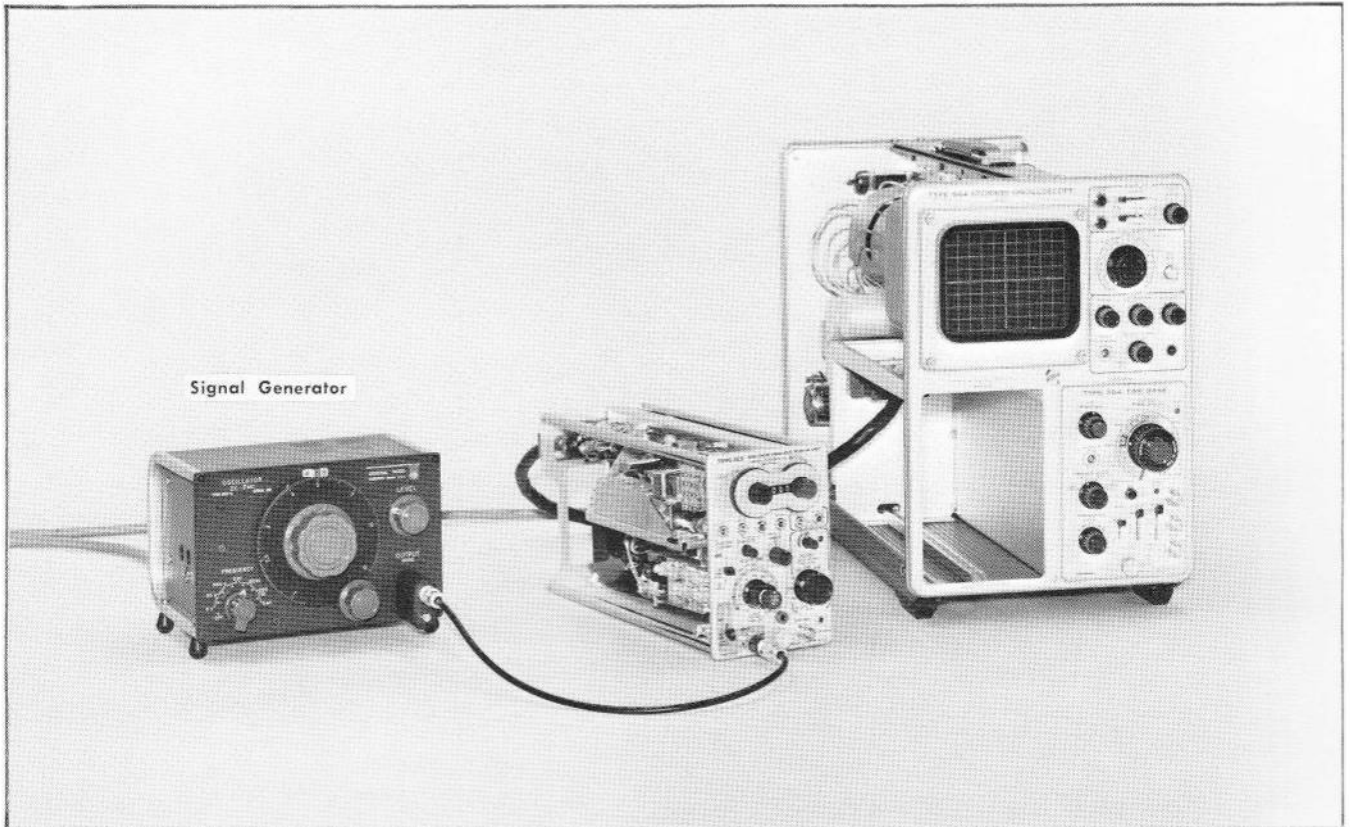

Fig. 6-8. Equipment setup for adjusting resolution. Step 5.
a. Equipment setup is shown in Fig. 6-8.